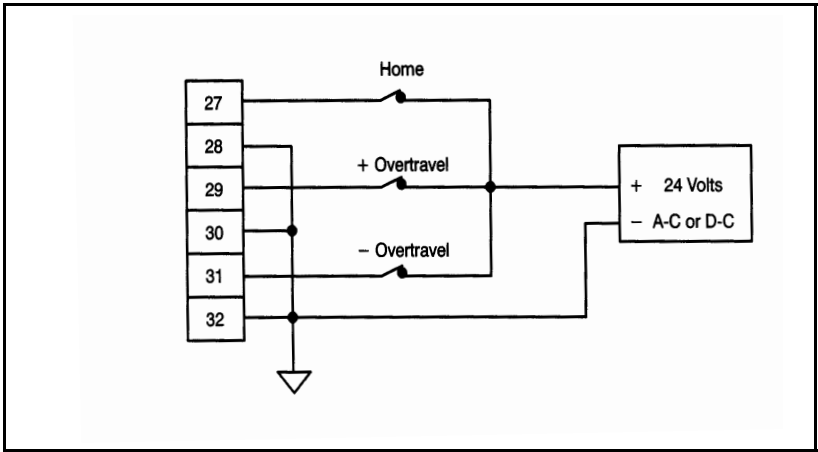

Figure 3.4 – Typical Limit Switch Connections
- Step 7. If your application requires them, mount the home L/S, positive overtravel L/S, and negative overtravel L/S on your machine. Overtravel L/S should be normally closed devices. Fasten the field wires from the limit switches to the terminal strip. Typical field connections are shown in figure 3.4.